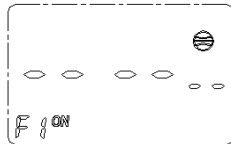
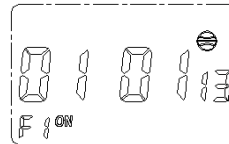

Figure 8
Figure 9
“ - - - - - ”, as figure 8, Press "R" button to open the group, or press "shift" button to select the adjusted position, For addition and subtraction operation according to the "+" "-", For example, the 2013 New Year's Day holidays start time is in January 1, 2013, set the F1 on date for the "01 01 13", The screen from left to right shows month, day, year, as figure 9, The upper right corner of the screen circular logo represents the holidays.
4.2.2.3 Continued to press the "MD" key, complete set all the holidays, The holidays can be arranged into 8 groups, Do not need to date, please press the "R" key, the date will be cancelled, as figure 8, Press the "+" and "-" button on the screen without blinking state can leafed through setting parameters.